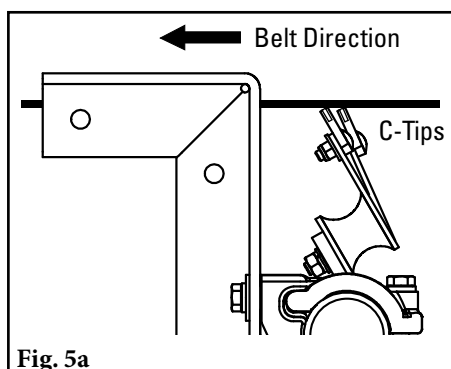

Fig. 5a
6. **Check the tip tension.** Pull back on the outside tip until the tip-to-belt contact is broken and release. If the cleaner is correctly tensioned the complete blade of the adjacent tip will be visible (Fig. 5a & 5b). If not, add (or reduce) tension by making 1/4 turn adjustments on the adjusting bolt as described in STEP 4 until the adjacent tip is visible.
5. **Check the blade tip tension.** Pull back on the outer blade in the direction of belt travel until the blade breaks contact with the belt. Let go of the blade. With correct tension the full thickness of the adjacent blade tip should be visible in front of the outer blade (Fig. 5a and 5b). Also check the centre blade in same manner. Add tension in 1/4-turn increments on the top adjusting bolt jam nuts until view of full thickness of the adjacent blade tip is achieved.